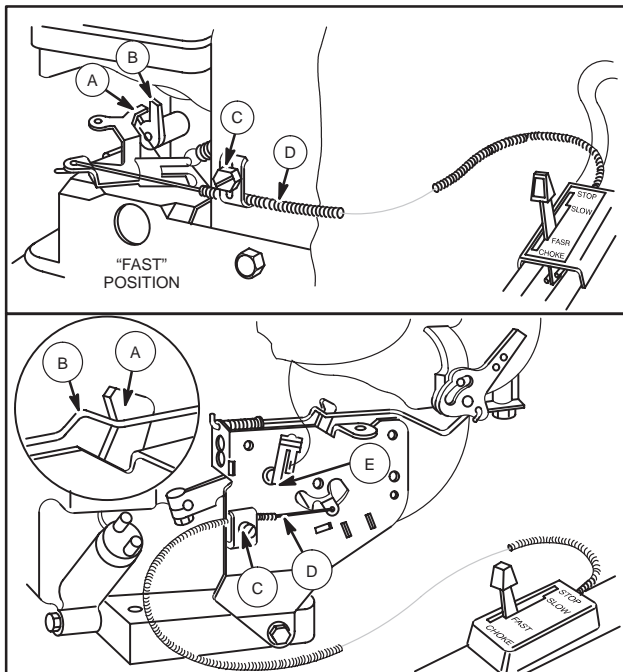
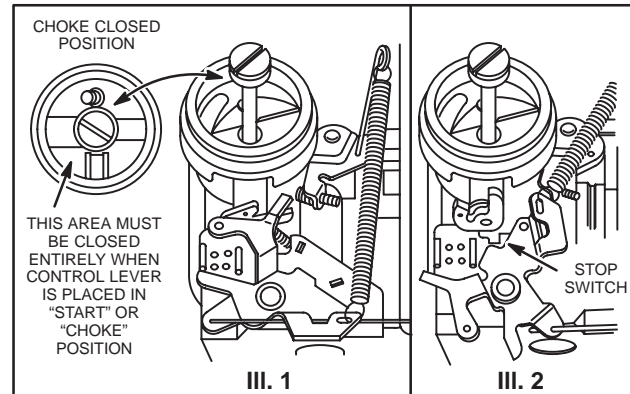

Fig. 355 - CHOKE-A-MATIC® CONTROL, TYPICAL
Fig. 356 - CHOKE AND STOP POSITION
Fig. 355 illustrates typical remote control installations used with Choke-A-Matic® carburetors.
1. To adjust, move remote control lever to "FAST" position. Choke actuating lever "A" should just contact choke shaft "B" or link "B" as shown in Fig. 355.
4. Choke valve should be completely closed, Fig. 356, III. 1.
5. Then move remote control lever to "STOP" position. Control must contact stop switch blade, Fig. 356, III. 2 or "E," Fig. 355.